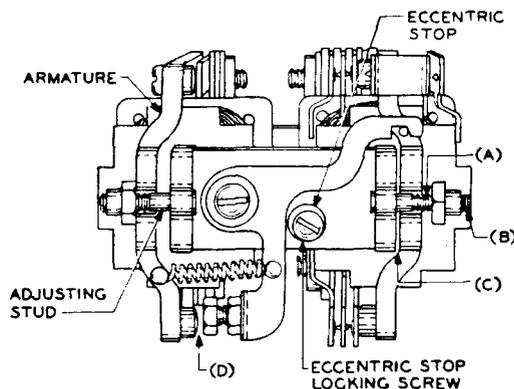

Fig. 104
**2.07 Adjusting Stud Clearance:** Fig. 104(A) — The armature shall not rub against the adjusting stud.
**2.08 Adjusting Nut Tightness:** Fig. 104(B) — The adjusting nuts shall be sufficiently tight on the studs to prevent their being turned with the thumb and forefinger. This requirement is considered as having been met if the nut does not turn under a turning pressure of one inch-
**2.10 Operated Armature Airgap:** Fig. 104(C) —